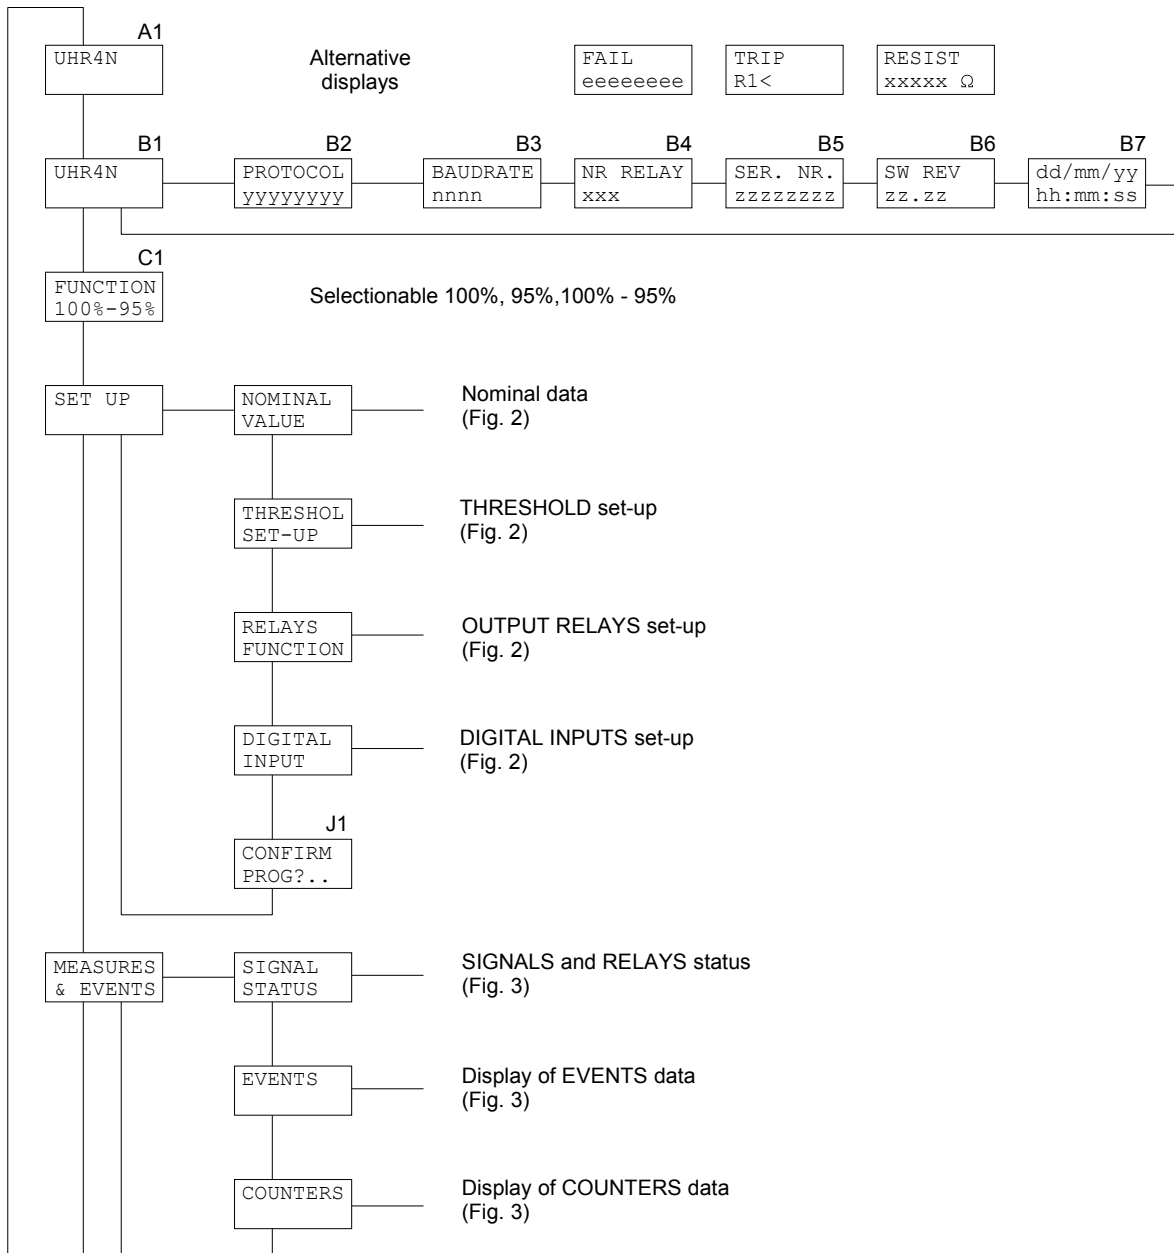

Figure 1
- the structure of the visualizations and their contents are showed in Figures 1 to 3.
The programmable parameters are showed in Figures 1 to 3 at the following references:
- 5) **CONFIRM** the new protection relay set-up at the visualization CONFIRM PROG? (Figure 1, ref. J1) within 5 minutes depressing the push-buttons [ENTER] and  up to visualize **YES** and [ENTER] again to confirm.
- display on STANDARD MODE (Figure 1, ref. A1 - par. 5.1)
5.3 Address and time (figure 1)
5.4 Function selection (figure1)**C1 - PROTECTION FUNCTION SELECTION (programmable)**